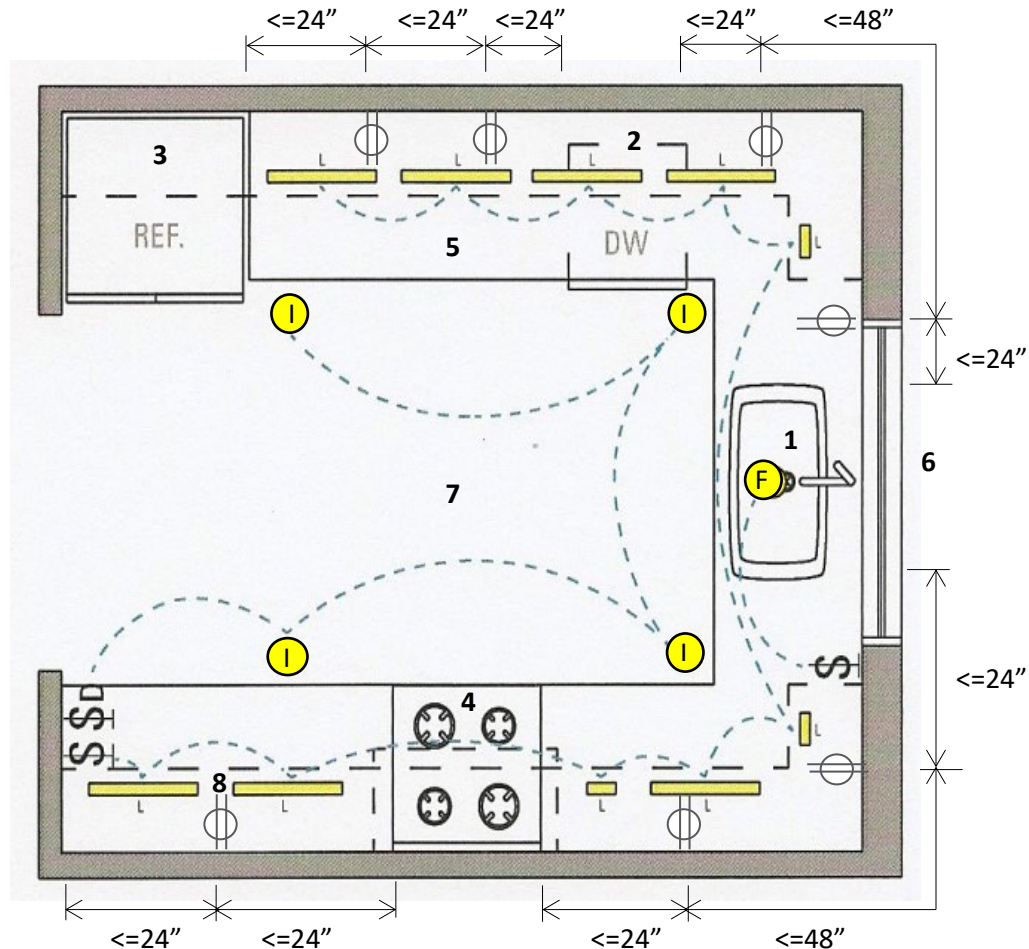

Figure 1
If the scope of work includes the reconfiguration of the kitchen layout, please bring **three (3)** sets of plans (minimum 11-in x 17-in drawings) depicting the existing and proposed kitchen floor plan and a written detailed description of the scope of work. It is important the plans clearly show all work proposed to avoid delays in permit issuance. Once a permit is issued, the scope of work is limited as defined and illustrated in the documents filed and the items to be replaced in the checklist below. See sample (figure 1) on next page. The applicant is responsible for compliance with all code regulations. If the scope of work is altered after permit issuance, the applicant shall request the permit be updated.